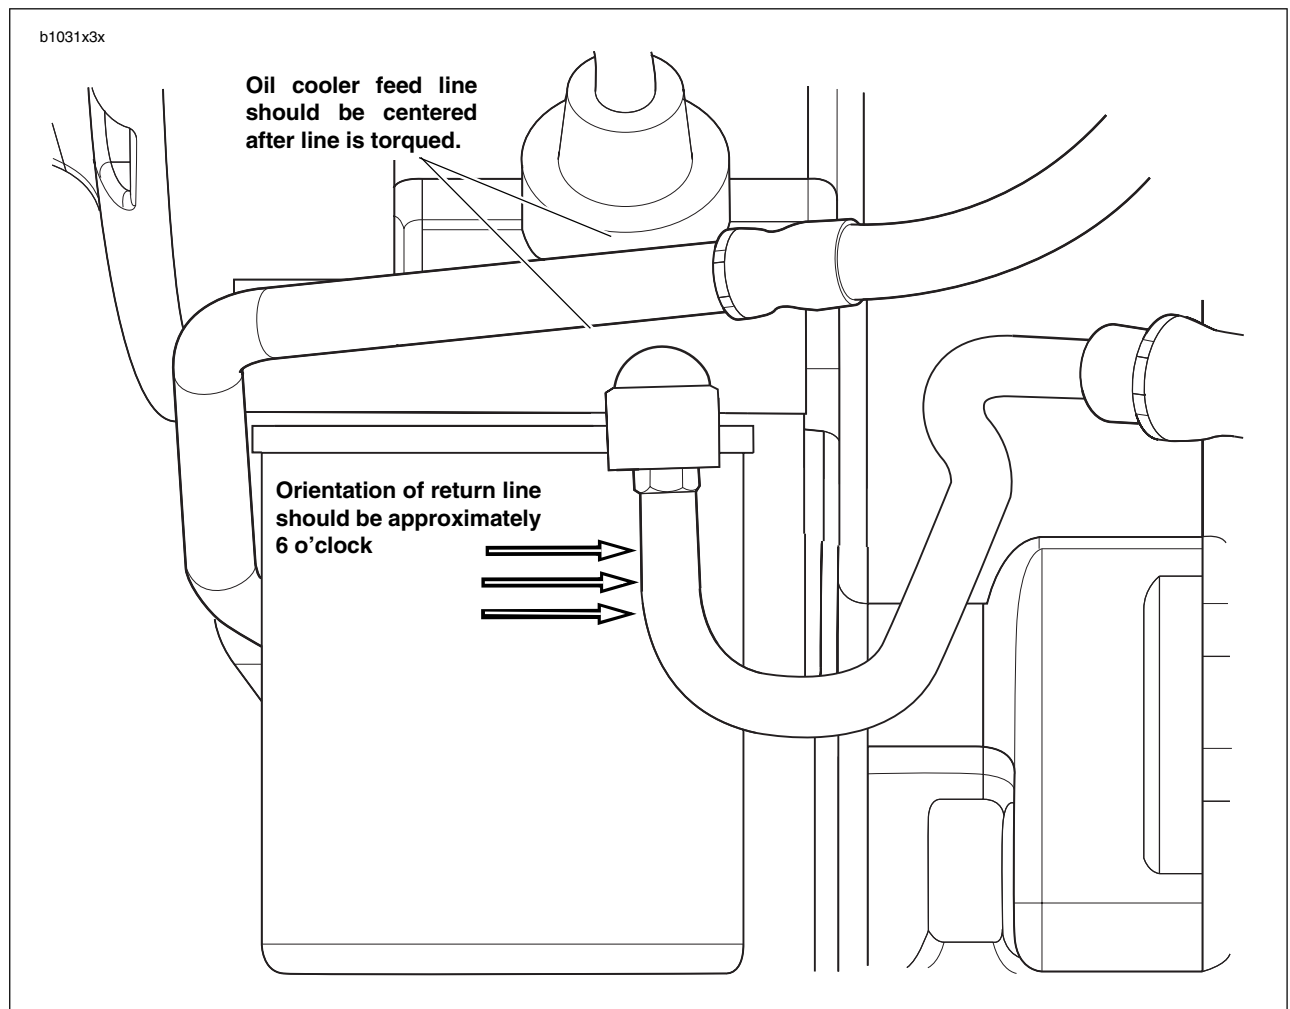

Figure 3-53. Oil Cooler Feed and Return Oil Lines Location and Orientation
29. See Figure 3-53. Install oil cooler oil feed line first at crankcase and tighten to 22-24 ft-lbs (29.8-32.5 Nm). Lightly coat the threads of the oil cooler fitting with clean H-D 20W50 engine oil. Wipe off any excess oil. Tighten feed oil line to 19-21 ft-lbs (25.8-28.5 Nm) at oil cooler making sure to center the oil line between the oil sending switch and the return oil line fitting on the crankcase.
See Figure 3-53. The orientation of the oil cooler return oil line where it enters the crankcase should be at approximately 6 o'clock to allow for proper alignment and clearance of other components on the vehicle.